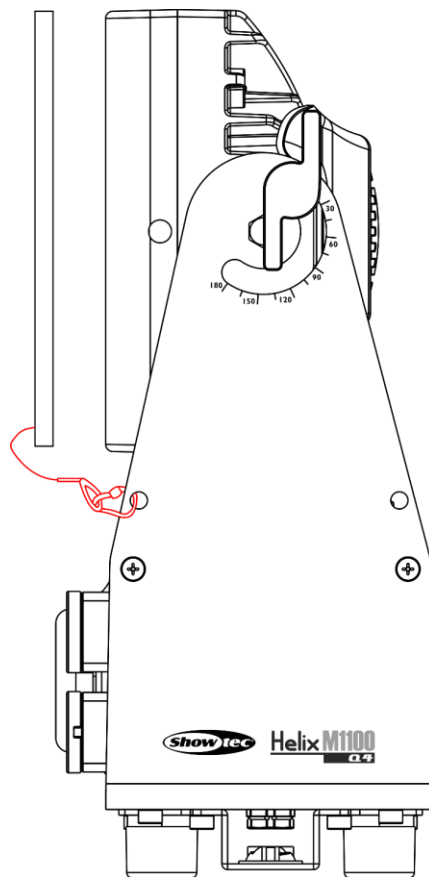

Fig. 07
- 02) Put the barndoor on the device, as shown in Fig. 07.